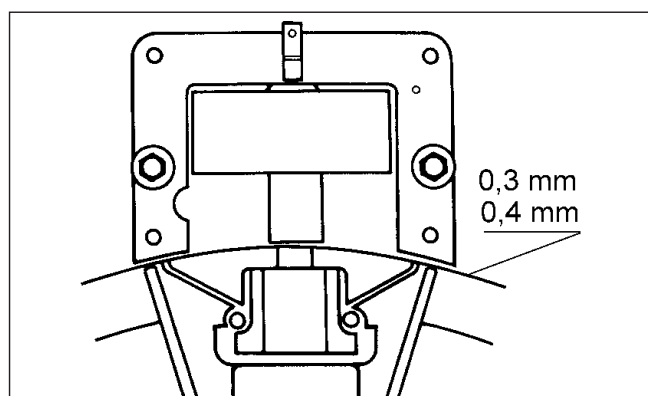

Fig. 24
- The correct air gap setting between the flywheel magnets and the laminations of the solid state module is 0.30 - 0.40mm (Fig 24).